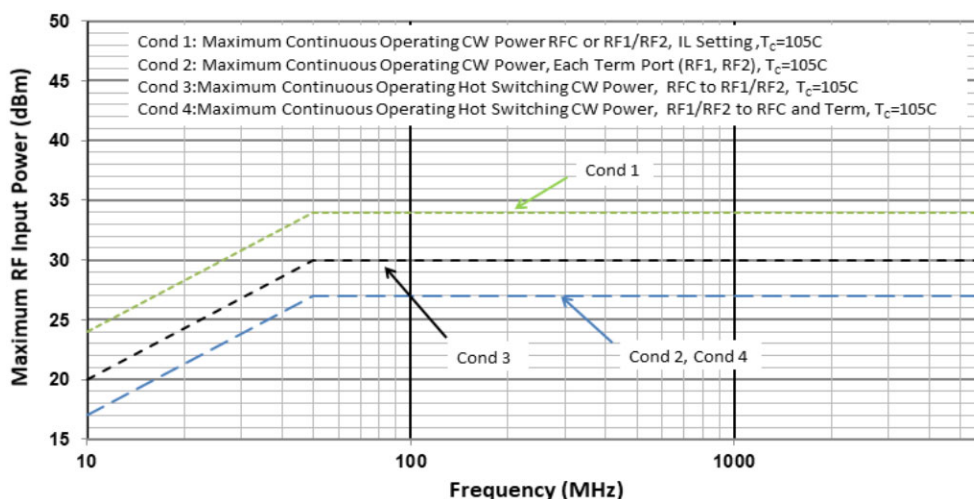

Figure 3. Maximum RF Input Operating Power vs. Frequency
1. Levels based on: $V_{DD} = 3.1\text{V}$ to 5.25V , $250\text{MHz} \leq F_{RF} \leq 10\text{GHz}$, $Z_S = Z_L = 50\Omega$. See Figure 3 for power handling derating vs. RF frequency.